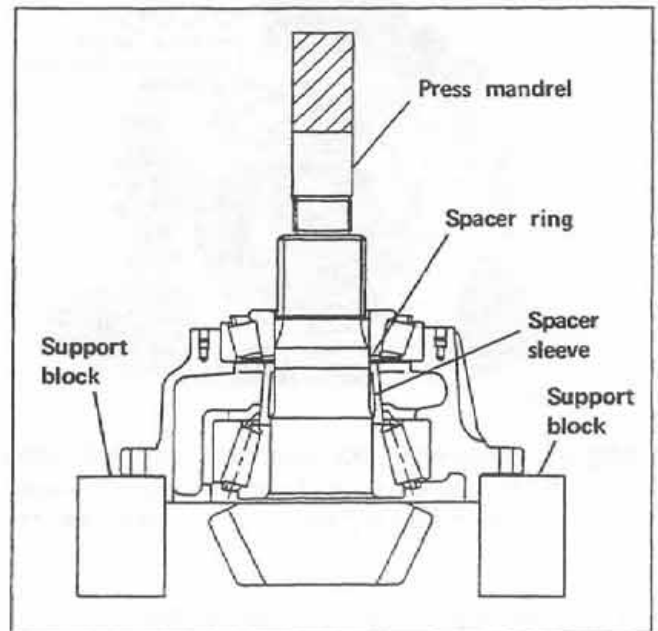

Figure 20:
Step 24. Support the pinion bearing case assembly as shown (Fig. 20). Press out the pinion through the bearings and case.